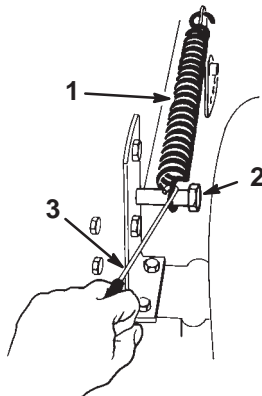

Figure 37
8. Remove the height-of-cut lift assist spring from the retaining bolt (Fig. 37) using the spring tool provided with the tractor.
22. Move the height-of-cut lever into the "D" notch. Hook the lift assist spring onto the retaining bolt for storage (Fig. 37).